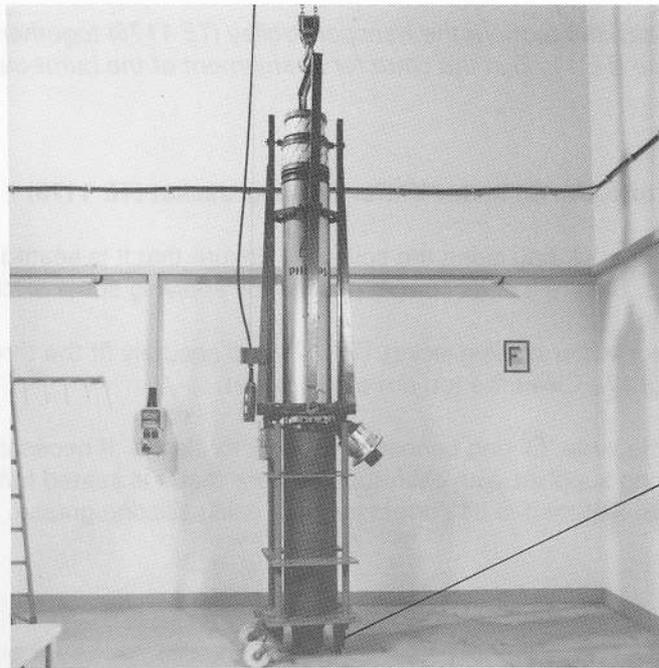

Fig. 14. The Klystron Raised to its Vertical Position
- (d) Support it carefully until the klystron reaches the vertical position (Fig. 14), resting on its wheels and support.